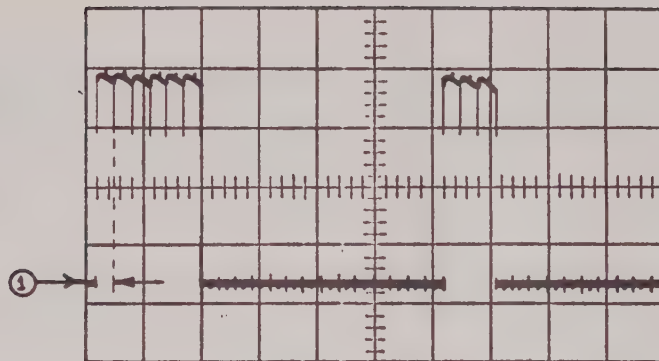

Figure 9: Typical 14-zero Condition
- m. Operate the Level and Stability controls and the Erase and Reset button of the Oscilloscope to obtain the waveform of Figure 9. The waveform should appear each time the pushbutton is operated. Observe the waveform carefully; it should contain fourteen time slots in which there are no pulses.
- o. While holding the SELF TEST switch, press and release the Oscilloscope's ERASE/RESET button. Again, carefully note the waveform. A pulse displayed earlier at the left of the screen should have disappeared, while another pulse has appeared such that there are now only thirteen time slots with no pulses. These conditions are shown in Figures 9 and 10. Also, measurement ①, as measured from the beginning of the trace, should be between 0.3 and 0.5 cm (600 and 1000 ns).